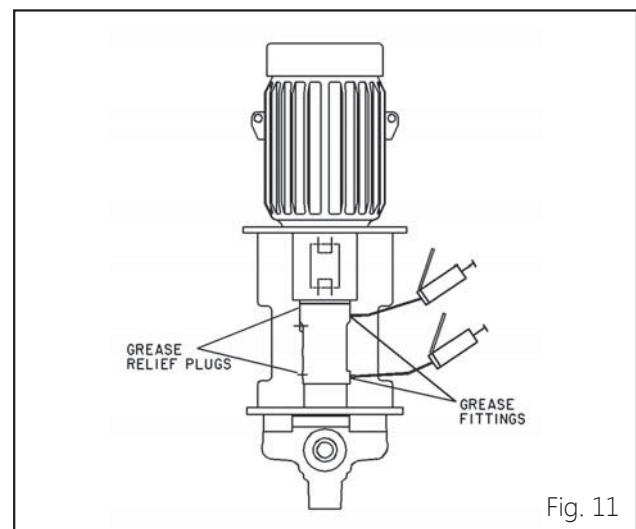

Fig. 11
1. Wipe dirt from both grease fittings (Fig. 11).